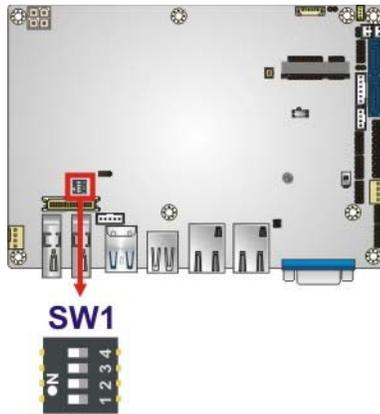

Figure 4-14: LVDS Resolution Selection Jumper Location
- Jumper Location:** See Figure 4-14